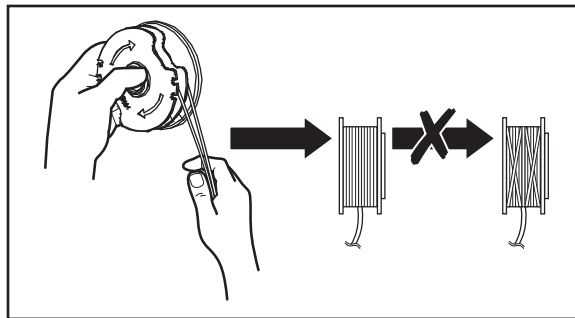

Fig. 28
7. Wind all the trimming lines firmly around the trimming spool (12c) in direction of the arrows on the trimming spool (12c) (Fig. 28).